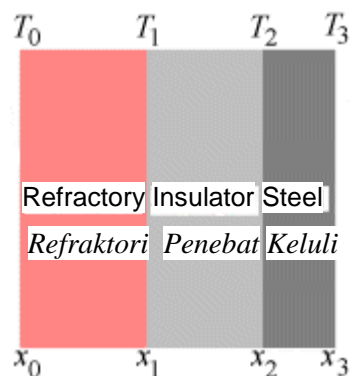

Figure 3 - Layers in a composite furnace wall
4. [a] The wall of a furnace comprises of three layers as shown in Figure 3. The first layer is a refractory (whose maximum allowable temperature is 1500°C) while the second layer is an insulator (whose maximum allowable temperature is 1100°C). The third layer is a plate of steel with 6.5-mm thick [thermal conductivity = $45 \text{ W}/(\text{m K})$]. Assume the layers are in a very good thermal contact. The temperature T_0 is 1450°C , while the temperature T_3 is 40°C . The heat loss through the furnace wall is expected to be $15800 \text{ W}/\text{m}^2$. Determine the thickness of the refractory and insulator that would give a minimum thickness of total wall.